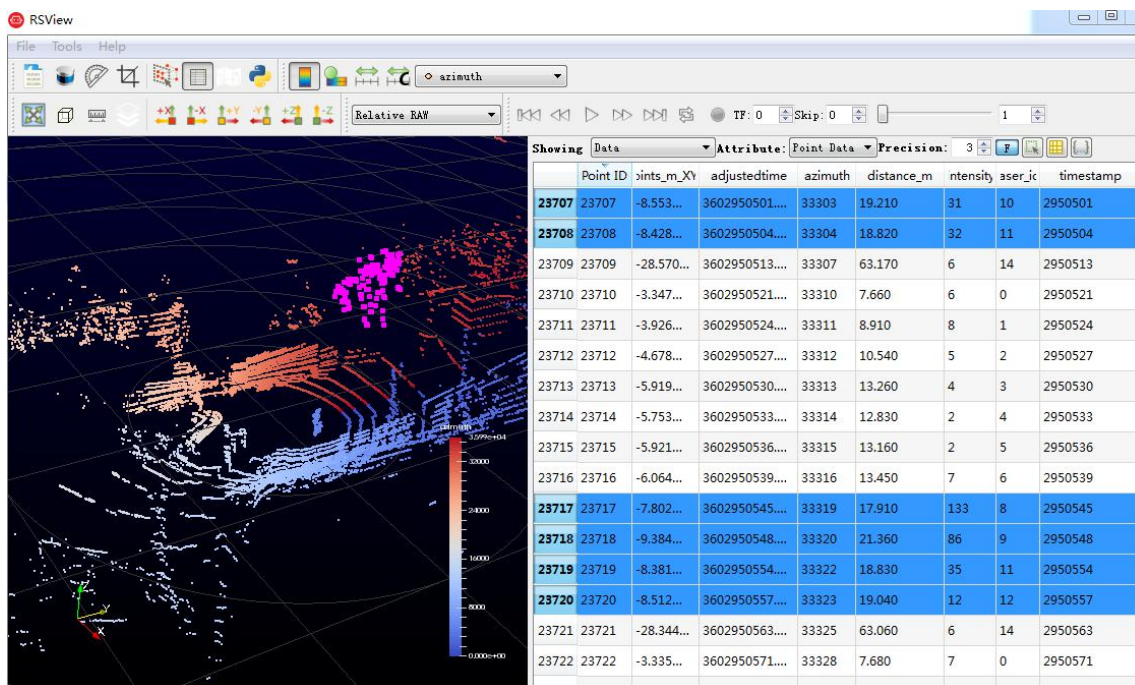

Fig C-13 RSView List Selected Points
9. In the 3D rendered data pane use your mouse to draw a rectangle around a small number of points. They will immediately populate the data table (Fig C-13).